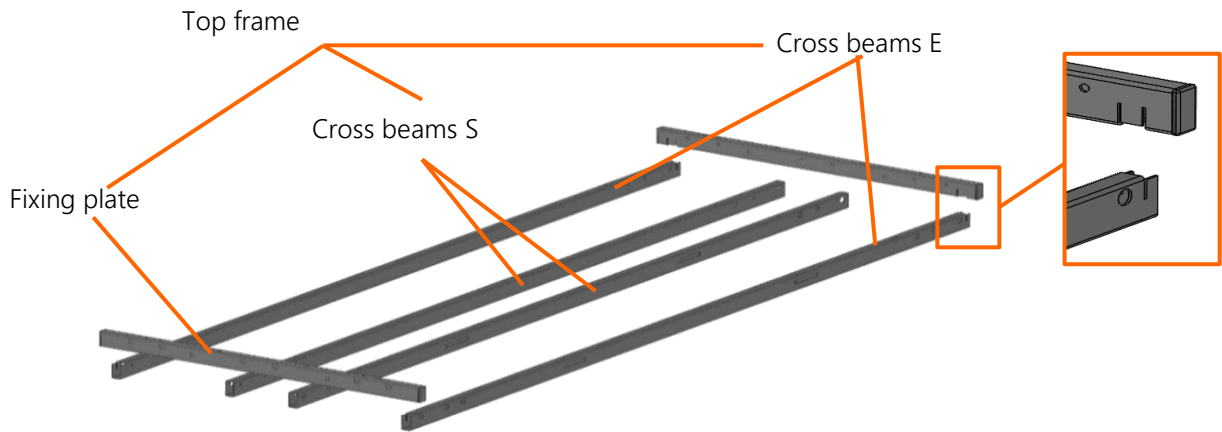
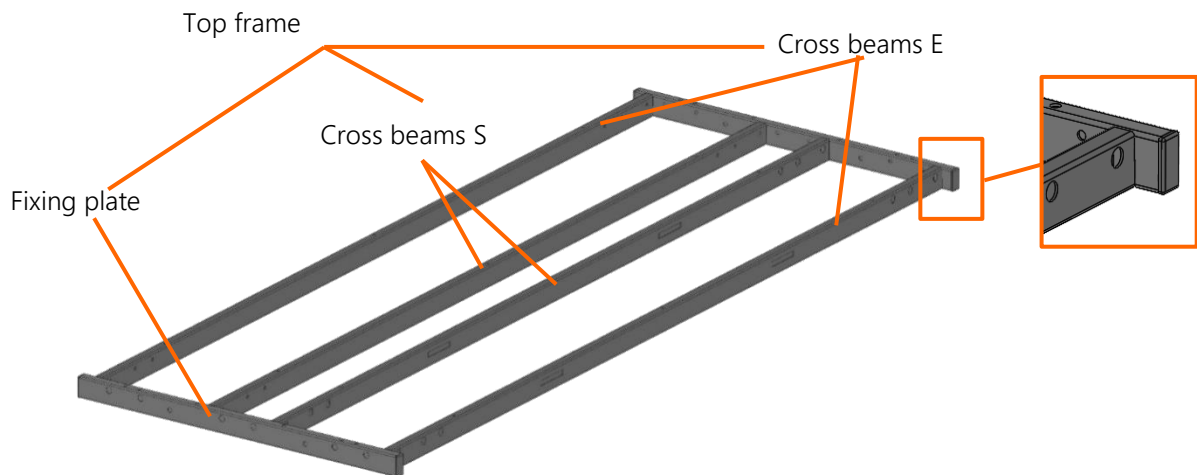

Figure 11 Assembling the top frame of the 2-leg system
Figure 12 Assembled top frame of the 2-leg system
For the assembly of the top frame, the cross beams E and S are placed on the floor as illustrated in Figure 11. In the next step, the fixing plates are hooked into the two cross beams E. The finally assembled top frame is illustrated in Figure 12.
- The two cross beams S are fastened with the sleeves (12 pieces) and the screws M6x25 (12 pieces) to the lifting elements as described in Figure 12.